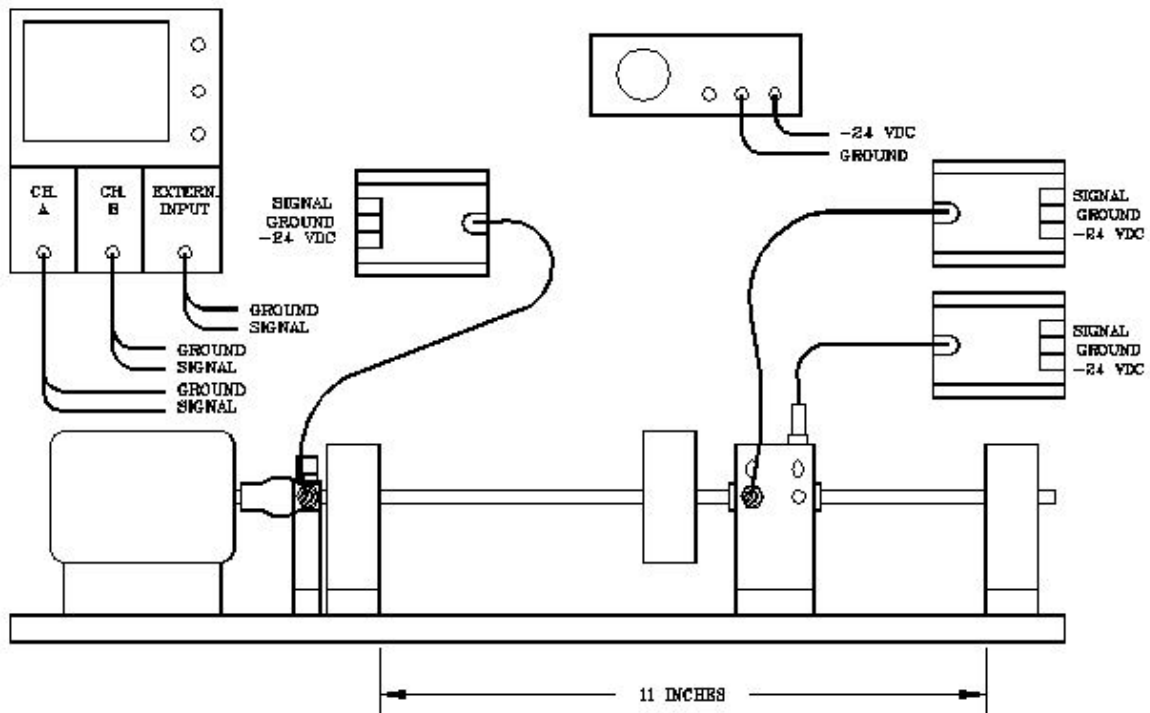

Fig. 9.1
Assemble the demonstration rotor using two (2) sleeve bearing assemblies, one (1) rotor mass, and one (1) transducer pickup mount as shown in Figure 9.1. Install the phase transducer so that it views the notch in the coupling. Install two (2) transducers in the transducer mount so that they are 90° apart from each other with one transducer mounted vertically.